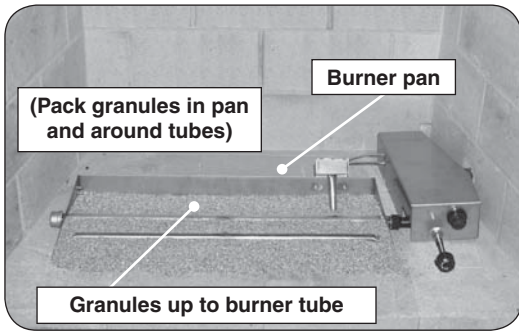
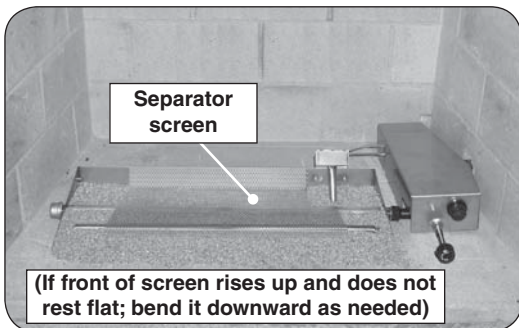
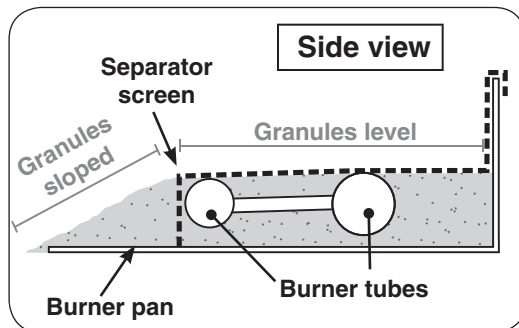

Fig. 9-1
Fig. 9-2
Fig. 9-3
1. Pour the granules into the pan until they just cover the burner tubes. Then pack the granules in the pan and around the burner tubes. Add additional granules as needed to end with the granules **level** with the top of the burner tubes. Slope the granules in the front portion of the pan. See Fig. 9-1 and Fig. 9-3.
2. Place the separator screen over the granules such that the rear of the screen hooks over the top and back of the burner pan, as shown in Fig. 9-2 and Fig. 9-3. If the front of the screen rises up from the floor of the pan, bend it downward as needed.